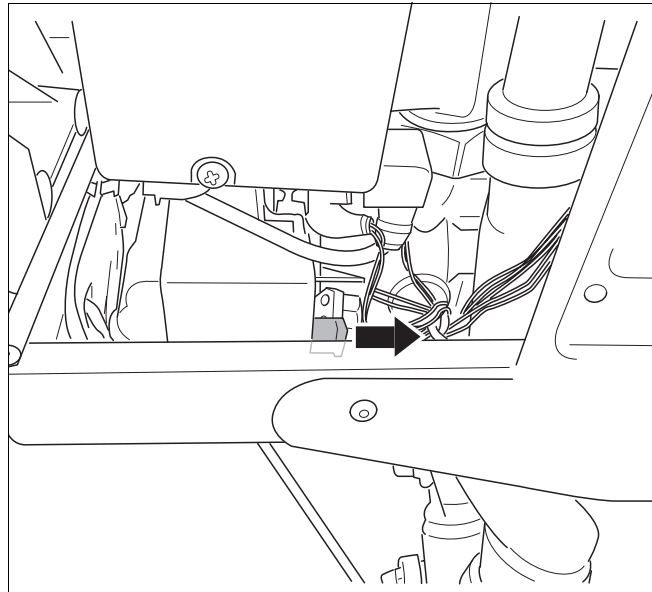

fig. 102 Disconnect plug
- Disconnect the plug (→ fig. 102, item 1) of the servomotor.